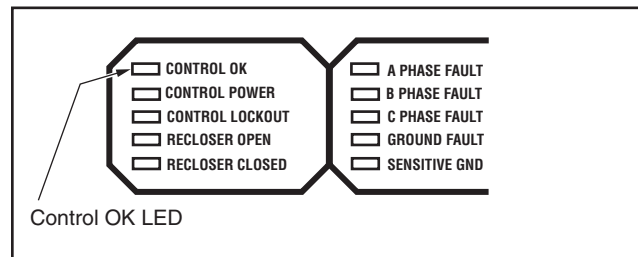

Figure 25. Control ok LED
3. Verify the Control OK LED is illuminated on the control operator panel (Figure 25). This indicates the presence of DC power.